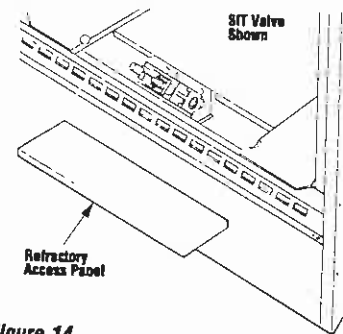
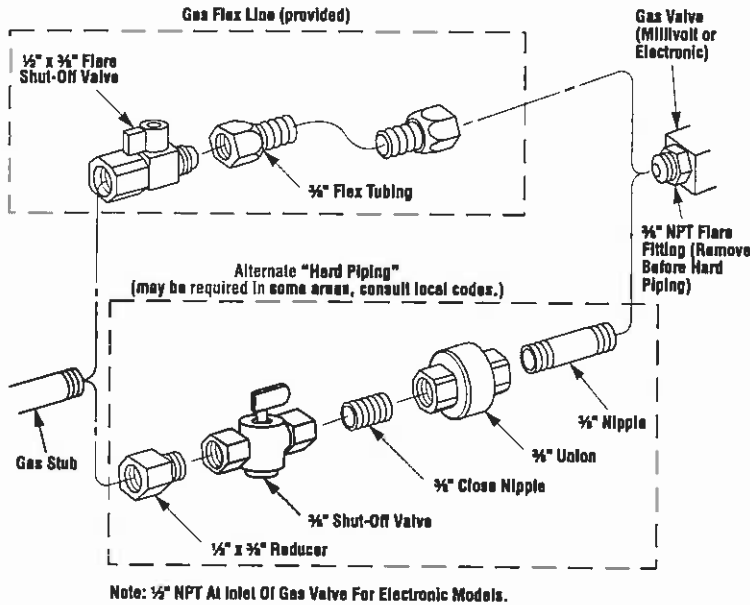

Figure 14
Figure 16
Step 6. Connecting Gas Line – Make gas line connections. All codes require a shut-off valve located in the supply line. *Figure 16* illustrates two methods for connecting the gas supply. The flex-line method is acceptable in the U.S., however, Canadian requirements vary depending on locality. Installation must be in compliance with local codes. The gas control valve is located in the lower control compartment. To access the valve remove the refractory access panel and set aside (*Figure 14*).